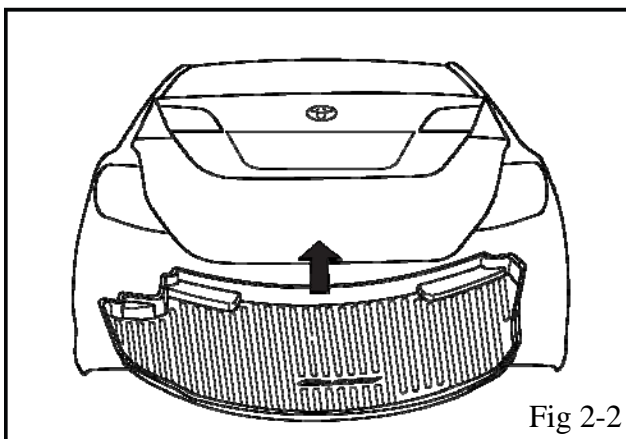

Fig 2-2
- (b) Grasp the tray by the rear and fold in the sides sufficiently to slide it into the rear compartment. After installing the tray, ensure all of the edges are pushed down against the floor. (Fig 2-2)